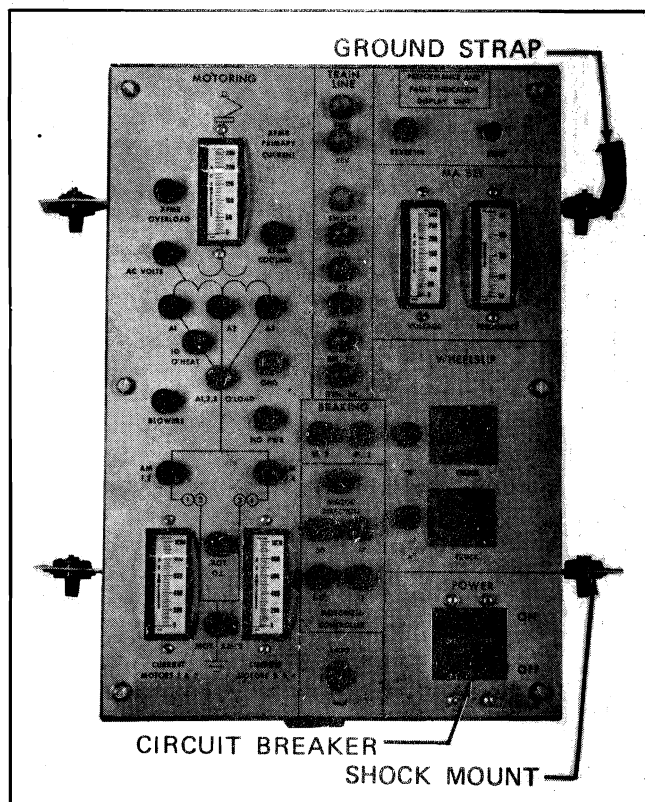

FIG. 13-66. INDICATING PANEL FM329 FRONT VIEW. E-19827
The FM329 panel consists of a metal frame on which components, such as switches, meters, indicating lights, counters, a connecting cable and plug are mounted. (See Fig. 13-66 and 13-67).
**DISASSEMBLY (See Fig. 13-66, 13-67, 13-68)**